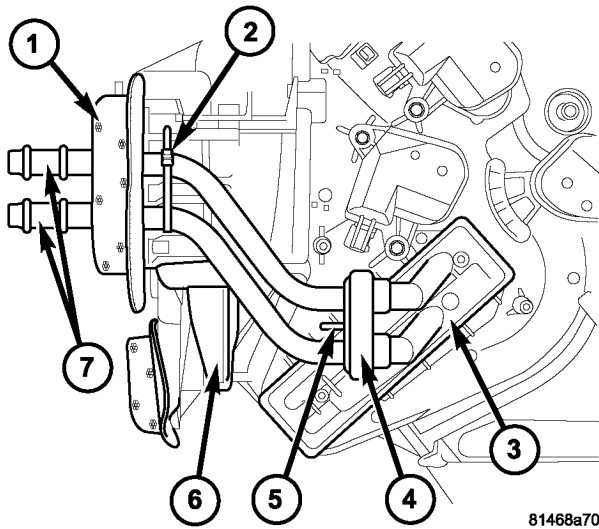

Fig. 12 Heater Core Tubes
(3) Remove the foam seal from the heater core tubes and the flange located at the front of the HVAC housing (Fig. 12). If the seal is deformed or damaged, it must be replaced.
(4) Remove the plastic retaining strap that secures the heater core tubes to the front of the HVAC housing.